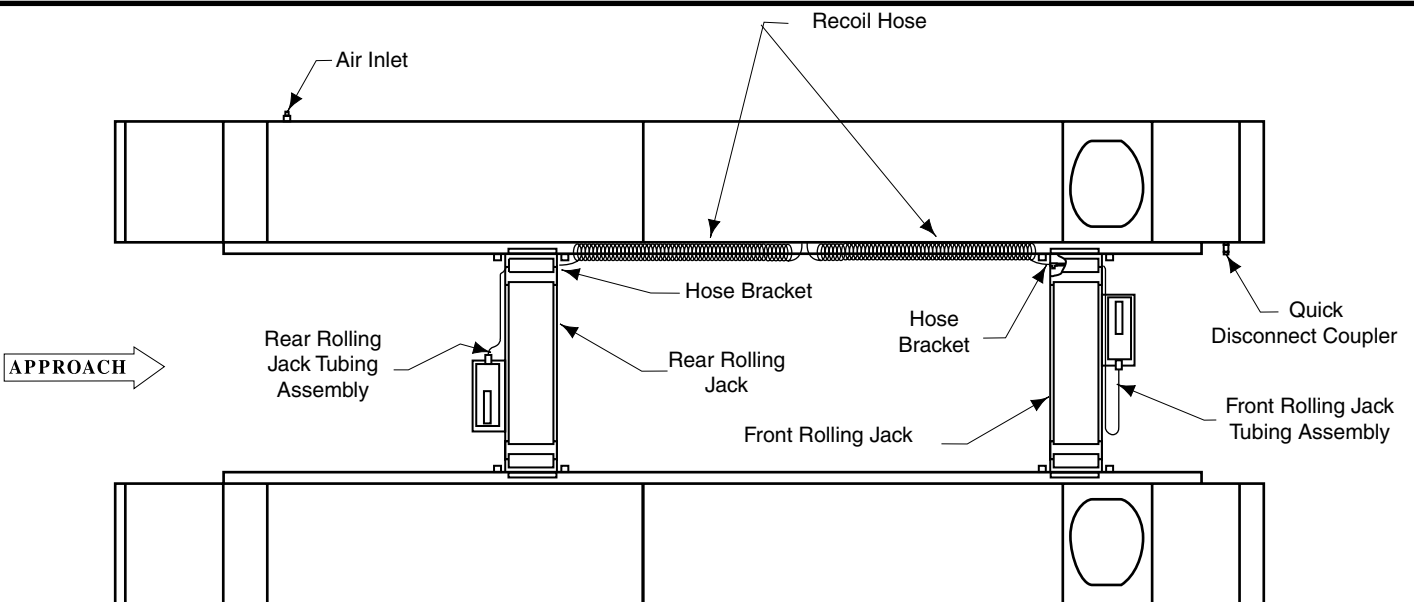

Fig. 30
17. Rubber Stop: Install (2) rubber stops in 1/2" holes 83" from front of runways. Attach using 1/4" Bolt, and Flanged Nut, Fig. 30. Attach (2) additional rubber stops 133" from front of runway on **000/006/010/016 Series lifts**. Attach 167-1/2" from front of runway for **001/007/011/017 Series lifts**.
This lift is equipped with an internal airline that provides air to both rolling jacks and extra access point for air driven tools (Quick Disconnect Coupler), Fig. 30. All internal air lines are factory assembled.